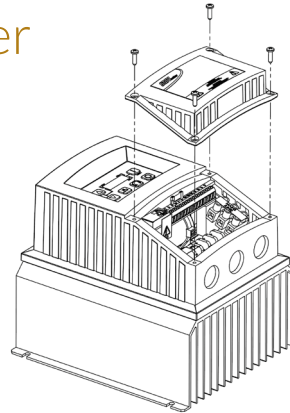

Figure 1: remove cover
2. Unscrew the 4 terminal cover screws as illustrated in Figure 1.